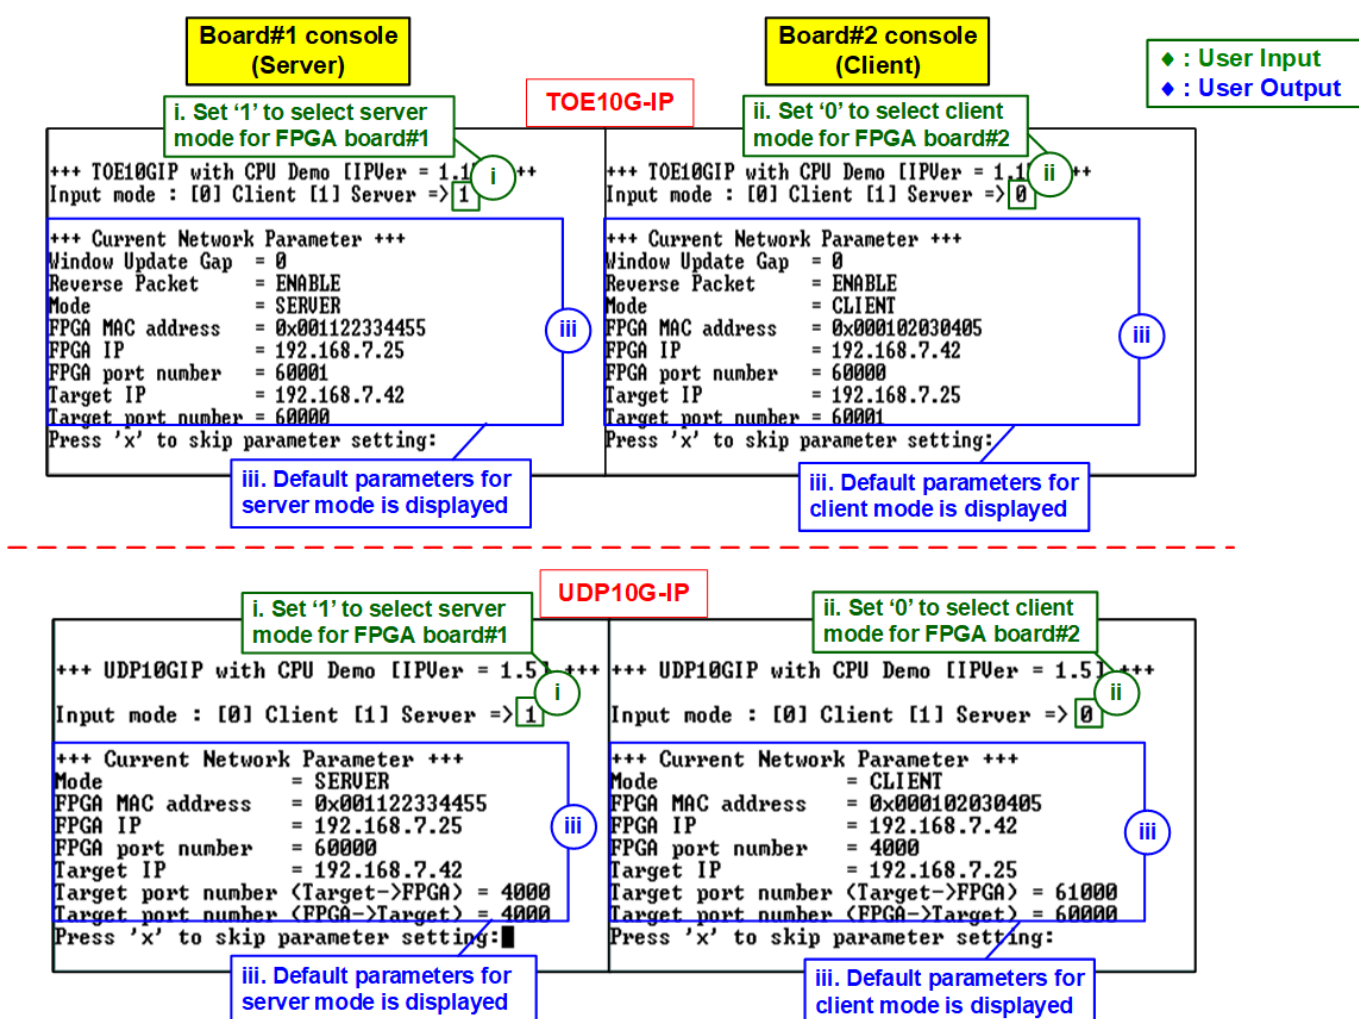

Figure 3-6 Input mode
- iii. Default parameters for Server or Client are displayed on the console, as shown in Figure 3-6.